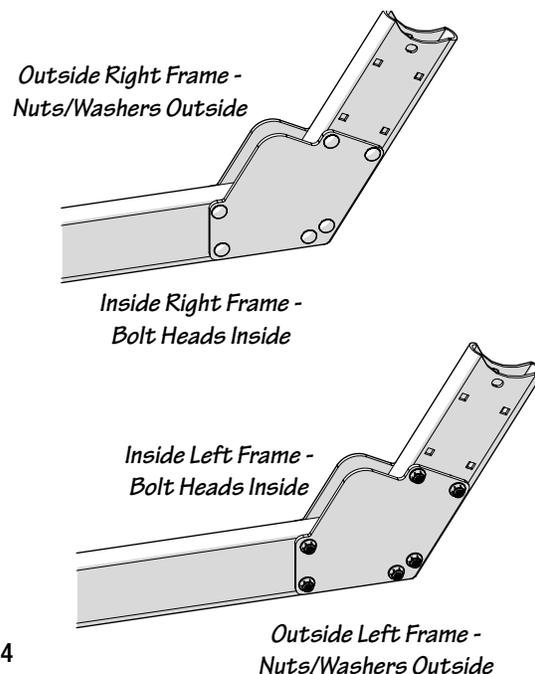

Fig. 4-4
- The bolt heads located on the splice plates must be located on the inside of both side rails as shown in Fig. 4-4.